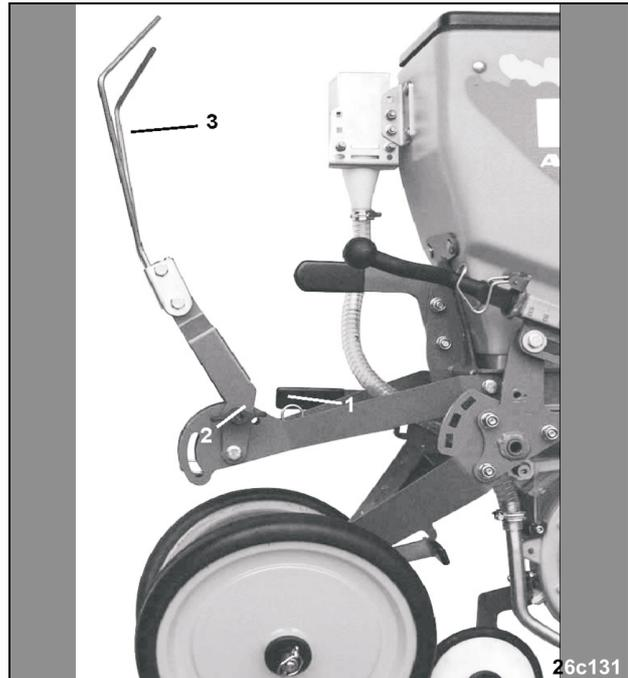

Fig. 136
- Unhook the spring (Fig. 136/1).
- Pull out the pin (Fig. 136/2).
- Swivel the furrow closers (Fig. 136/3) upwards and secure in this transport position by inserting the pin (Fig. 136/2).